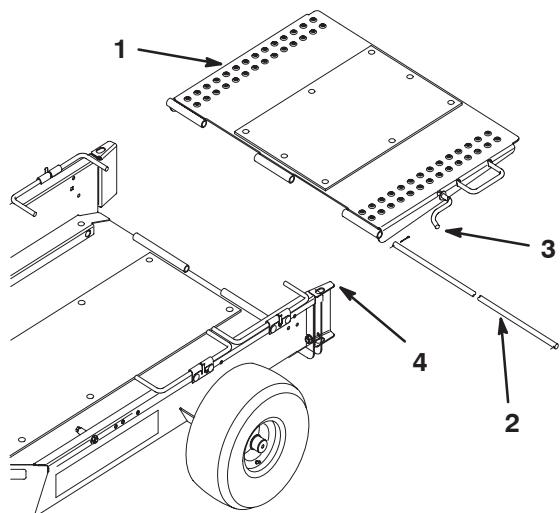

Figure 4
- Mount trailer ramp to rear of trailer bed with hinge rod and (2) cotter pins (Fig. 4).
- Pivot trailer ramp upward hook ramp latch into hole in top of wheel guide (Fig. 4).
7. Pivot trailer ramp upward hook ramp latch into hole in top of wheel guide (Fig. 4).